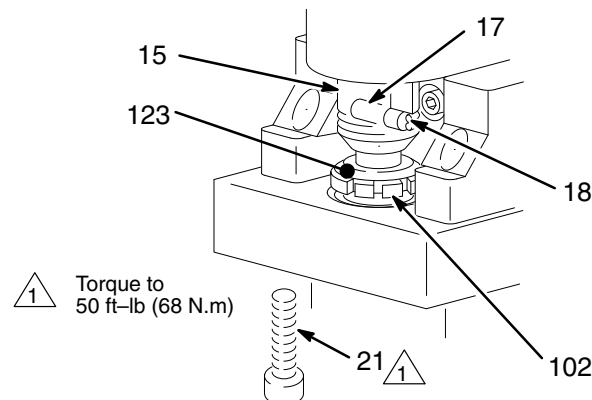

Fig. 19
- a. Remove the pump connecting rod pin (17). See Fig. 19, page 22.
11. **Break in the brushes.** Operate the sprayer for at least one hour with no load. Install the pump connecting rod pin. See Fig. 19, page 22.
Be sure the retaining spring (18) is firmly in the groove all the way around, to prevent the pin (17) from working loose due to vibration. See Fig. 19.